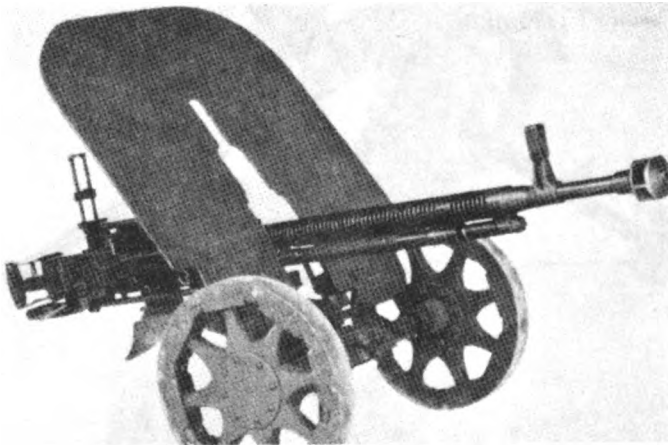

Figure 1
- a. Mount weapon on wheeled mount within 90 seconds. (See fig. 1.)